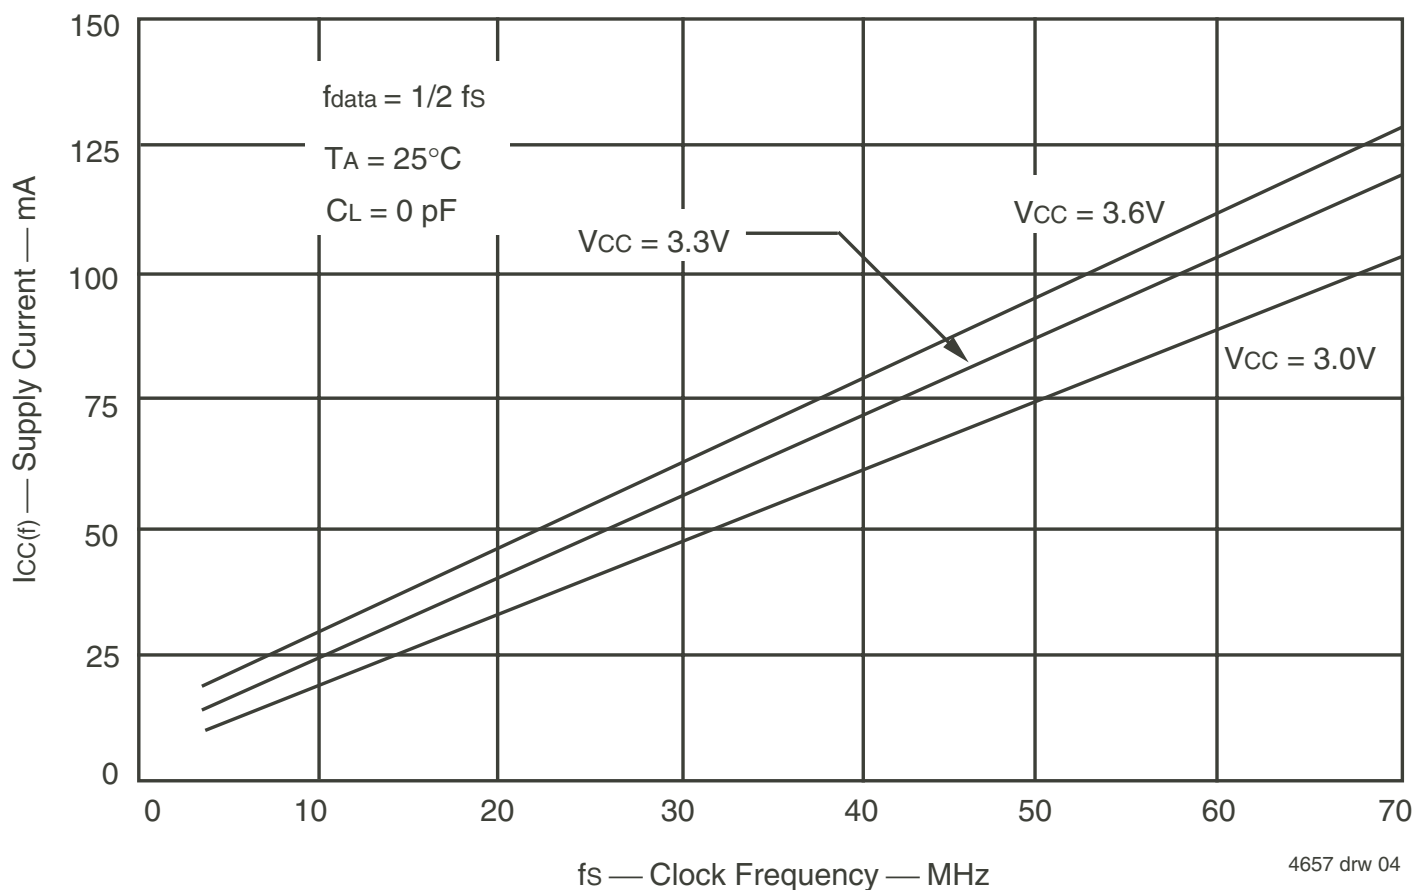

Figure 1. Typical Characteristics: Supply Current (I_{CC}) vs. Clock Frequency (f_s)
- For additional I_{CC} information, see Figure 1, *Typical Characteristics: Supply Current (I_{CC}) vs. Clock Frequency (f_s)*.
With $I_{CC}(f)$ taken from Figure 1, the maximum power dissipation (PT) of the IDT72V3611 may be calculated by: